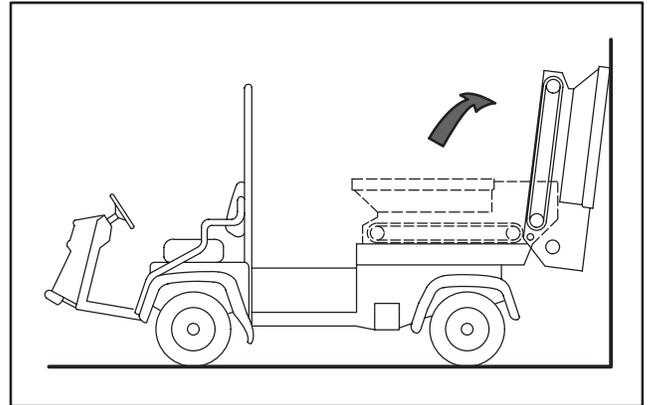

Figure 28
- Pivot hopper rearward and lean against wall, ladder, etc. Do not allow hopper to rest against rear of machine as damage may result to brush or hydraulic couplers (Fig. 28).
Important Make sure hopper is pivoted beyond center and/or secured to wall or post to prevent it from accidentally falling on work area (Fig. 28).